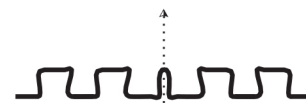

FIG. 2
- **3-piece** oil ring expander points should always be installed up to prevent impingement with oil ring groove drain features used on some pistons. The expander ends must butt and cannot overlap. *FIG 2